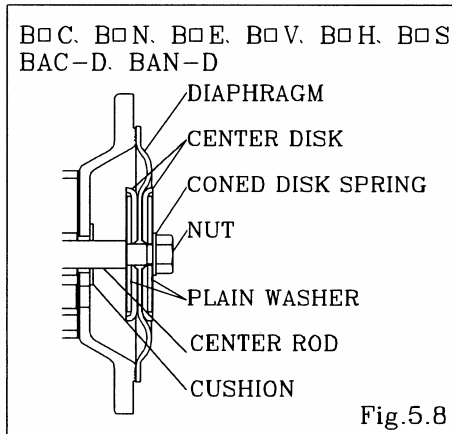

Fig.5.8
- Draw the center disk to one side, (cf. Fig.5.8) and install the out chamber. Tighten the bolts temporarily.
- Draw the center disk to the opposite side, then turn the diaphragm over (cf. Fig.5.8). And install the out chamber. Tighten the bolts temporarily.